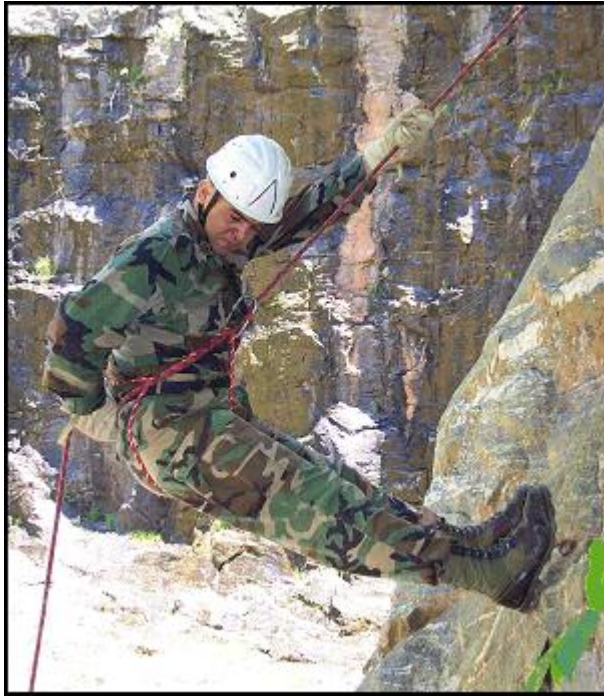

Figure 7-6. Seat-hip rappel.
c. **Seat-Hip Rappel** (Figure 7-6). The seat rappel differs from the body rappel in that the friction is absorbed by a carabiner that is inserted in a sling rope seat and fastened to the rappeller. This method provides a faster and more frictional descent than other methods. Gloves can be worn to prevent rope burns.